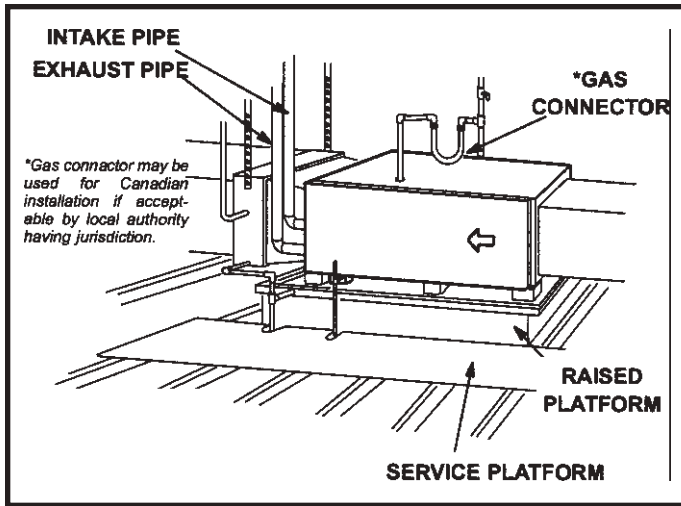

Figure 19
This furnace may be installed in either an attic or a crawl space. Either suspend the furnace from roof rafters or floor joists, as shown in Figure 18, or install the furnace on a platform, as shown in Figure 19. A horizontal suspension kit (51W10) may be ordered from your distributor or use equivalent.
2. Construct a raised wooden frame and cover frame with a plywood sheet. If unit is installed above finished space, fabricate an auxiliary drain pan to be installed under unit. Set unit in drain pan as shown in Figure 19. Leave 8 inches for service clearance below unit for condensate trap.